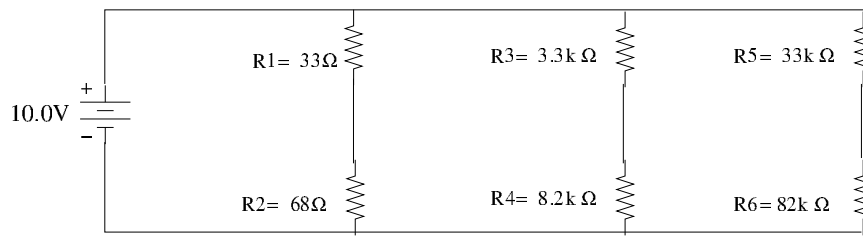

Figure 2.6.: meter loading test circuit
6. Calculate all voltage drops and currents present in figure 2.6. These calculations are the "no meter present" predictions and go in the first open column of Table 2.1.
7. Now build the circuit shown in Figure 2.6.
9. Use the digital multimeter to measure all voltages present in figure 2.6. Tabulate the values as V_{R1} , V_{R2} , etc.